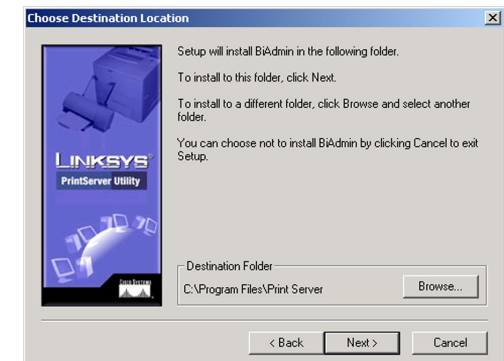

Figure 8-3: Choose Destination Location
4. The next screen to appear is Choose Destination Location, as shown in Figure 8-3. You will be requested to choose the location of where the Bi-Admin folder will be installed. If you want the folder to be installed in a different location, click the **Browse** button and select the location. To install the Bi-Admin folder in the default location, click **Next** to continue.